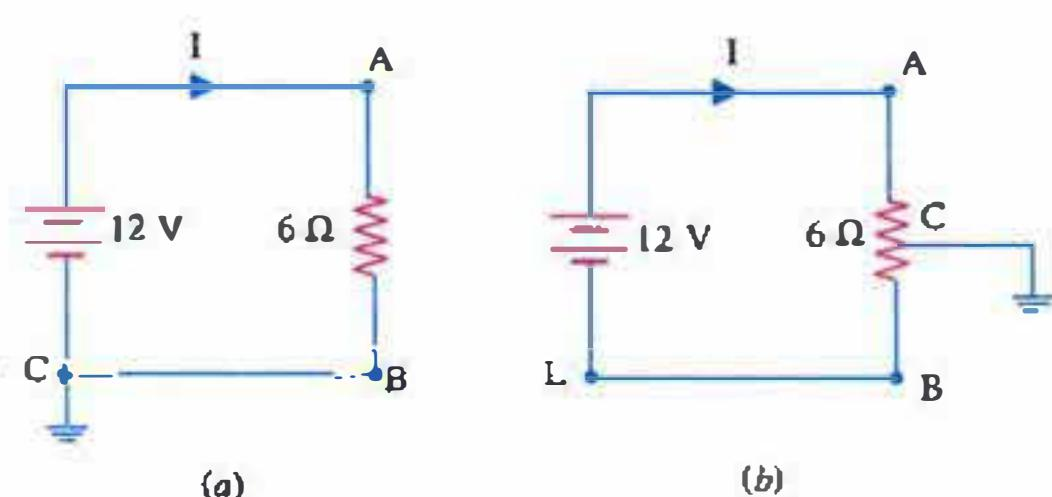

Fig. 1.11
**Example 1.1.** In the circuit of Fig. 1.11 (a), find
**Example 1.2.** In Fig. 1.11 (b), mid-point *C* of the  $6\Omega$  resistor has been grounded. Calculate